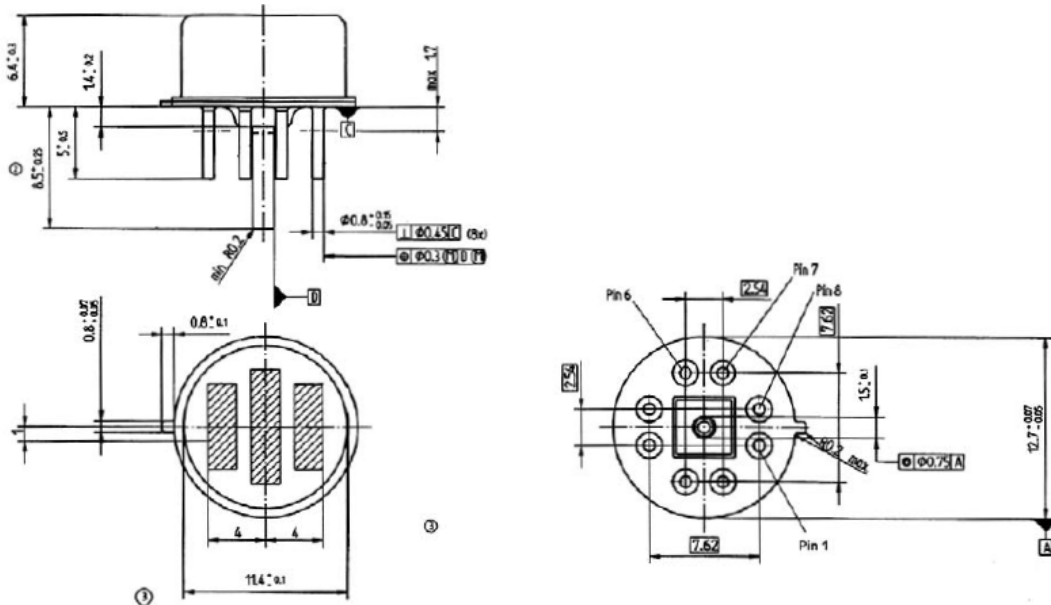
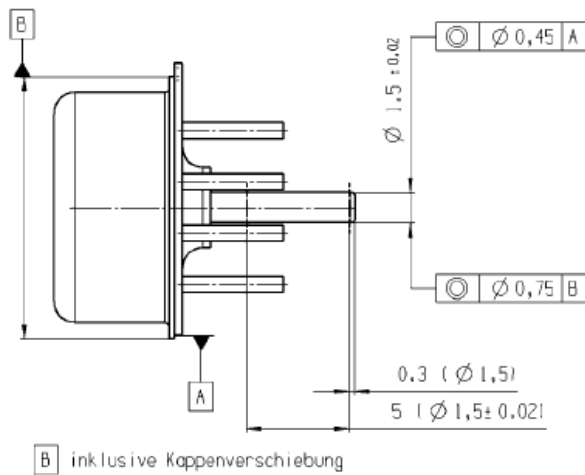

Figure 7. Package dimensions (all in mm), type writing is in the hatched area
Figure 8. Pressure supply pipe with tolerance data (all in mm)
- f) It is recommended to keep the distance between the TO-8 bottom plate and the PCB at approximately 1.8 ... 2.0mm (see figure 7 and figure 8), which is the thickness of the square metal part at the bottom plate. This part is holding the pressure pipe. This mounting condition prevents possible shortcuts between the electrical connections (TO-8 housing is connected to GND).